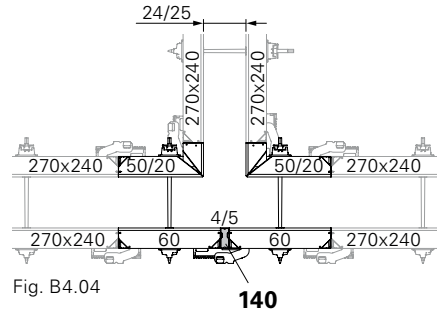

Fig. B4.04
- Wall thickness 24/25: Fig. B4.04